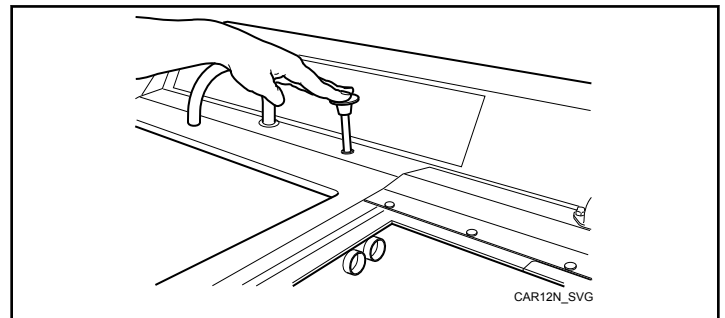

Figure 10
2. Close drain of wash compartment to be used. Refer to *Figure 10*.